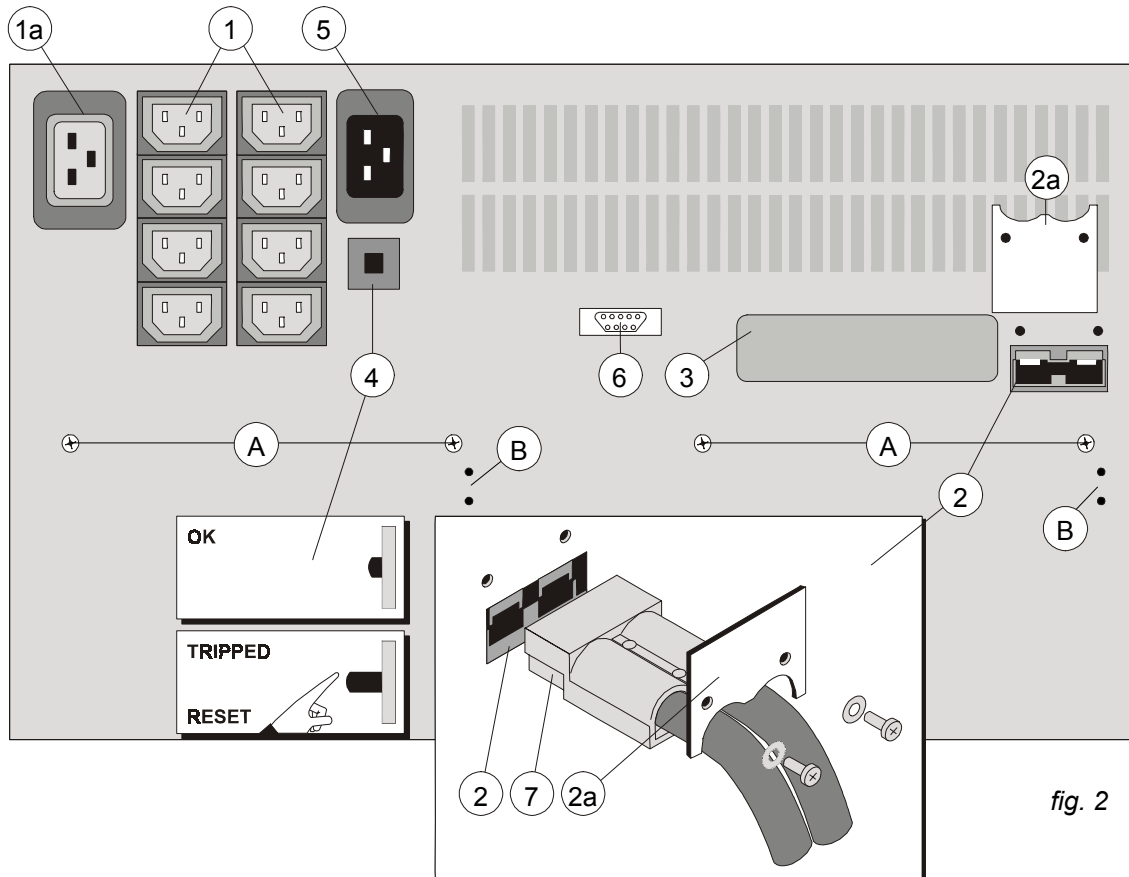
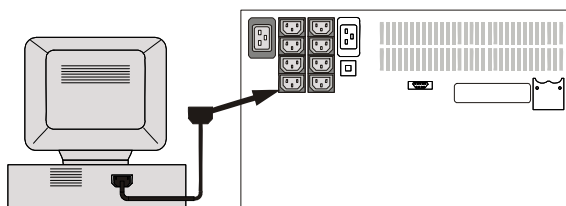
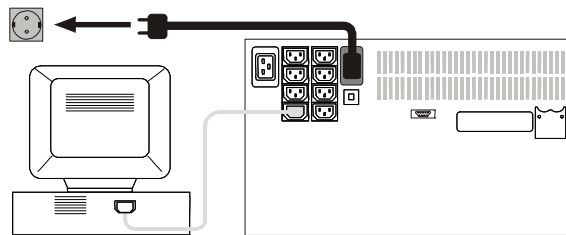

fig. 2
fig. 3
fig. 4
- During transport the battery drawers must either be removed or fixed with two screws each at the rear side of the UPS (A, fig. 2).
9. Loosen the two screws and remove the pull relief (2a, fig. 2). Connect the DC connector of the battery module (7, fig. 2) to the DC socket (2, fig. 2) of the UPS. Re-install the pull relief with the two screws, according to fig. 2 (upside down). Using the DC socket of the battery module (not shown) you can install a second, third, etc. module. See also section 5.1.
10. Using the output cord(s) provided, connect the computer(s) to the appliance outlet(s) (1, fig. 2) of the UPS. Spread the loads over the appliance outlets as equally as possible. If you use a distribution box to connect more than one appliance per outlet, please note that the maximum AC-current rating of each appliance outlet is 10Amps (outlets 1) or 16Amps (outlet 1a). An output cord to connect a load to outlet 1a is not shipped with the unit. See fig. 3.
11. Connect the mains power cord to the mains input socket (5, fig. 2) of the UPS. See fig. 4.
12. Connect the mains power cord to a working, grounded AC wall socket outlet. See fig. 4. The green LED 'on' (10, fig. 6) will blink, and after 30 seconds illuminate continuously: the unit has switched on, output power is available.
14. For advanced communication possibilities, the RS232 interface port (6, fig. 2) can be connected to a computer system and/or optional interface cards (3, fig. 2) can be added. See chapter 4.